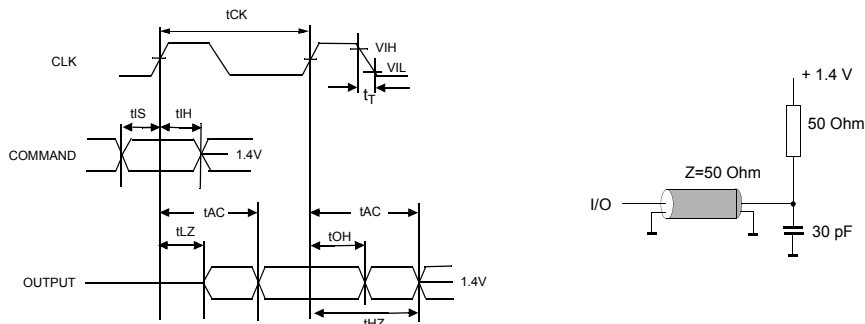

Figure 1.
- AC timing tests have V_{IL} = 0.4V and V_{IH} = 2.4V with the timing referenced to the 1.4 V crossover point. The transition time is measured between V_{IH} and V_{IL}. All AC measurements assume t_T = 1ns with the AC output load circuit shown in Figure 1.